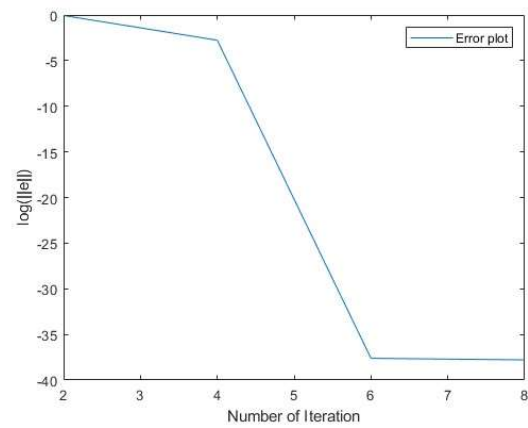

Fig 18
- ❖ Here error plot is only due to rounding off error in Gauss quad method. It can also be seen from values of  $\log |\text{err}|$  in figure 18.